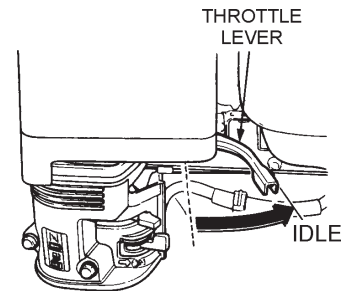

Figure 14. Throttle Lever (Idle)
- Move the throttle lever to the **IDLE** position (Figure 14) and run the engine for three minutes at low speed.